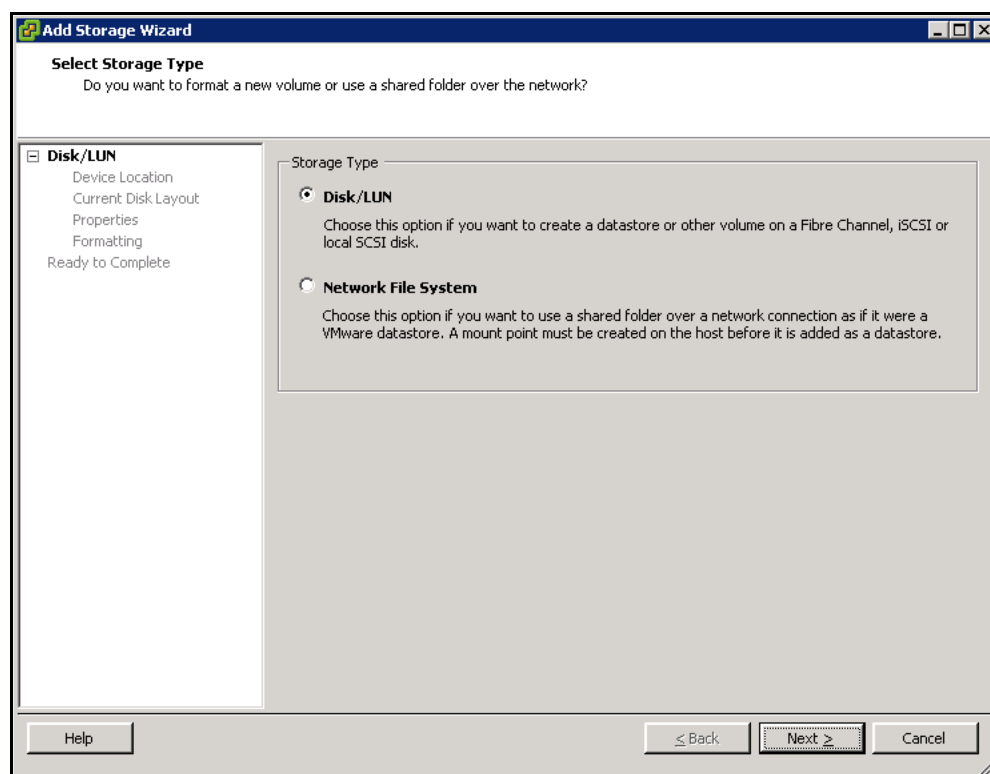

Figure 4-17: Select Storage Type Screen (Add Storage Wizard)
15. Click **Add Storage** in the top right the top-right area above **Storage**. The Add Storage Wizard starts, with the Select Storage Type screen displayed (Figure 4-17 on page 4-16).